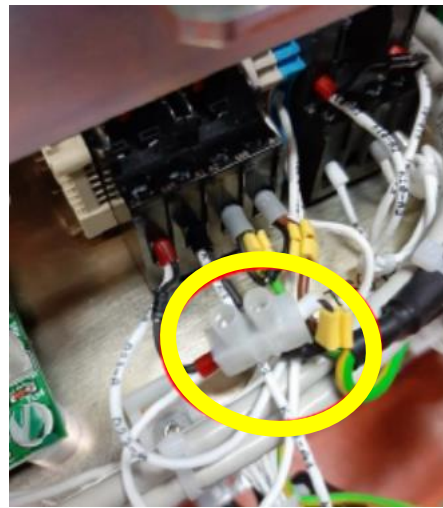

Figure 6
- (8) Install the tie wrap holder as show in figure 6.
- (9) Route the cables and make sure that they are not damaged during the movement of the mobile unit.
- (10) Install the capacitor using the tie wrap on the tie wrap holder.